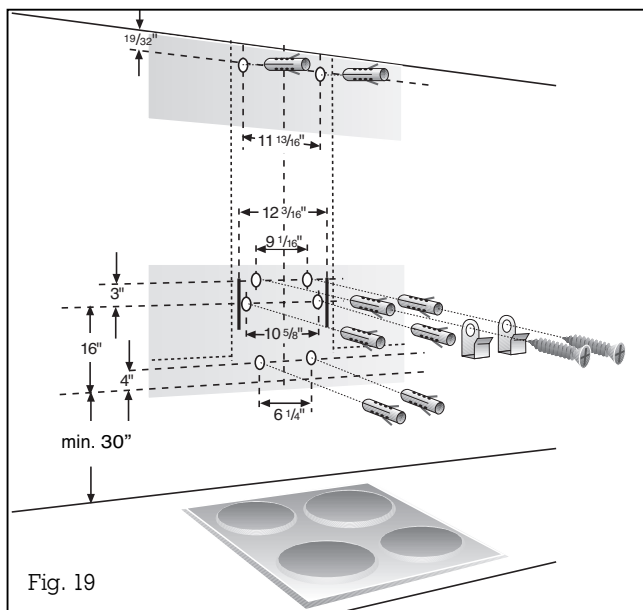

Fig. 19
- With the aid of the drilling template, mark the positions of the screws on the wall (Fig. 19).